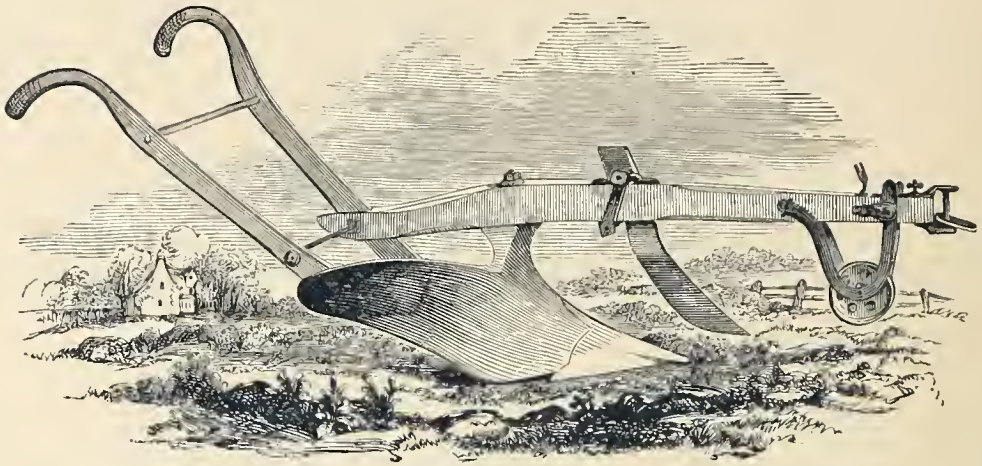

Fig. 299. — Prouty & Mears' Plow, Nos. 154 and 155.
*Improved Deep-Tilling Centre-Draft Plows, No. 154*, for three cattle, and *No. 155*, for four cattle, represented by *Fig. 299*, are deservedly popular among farmers who have used them. They are more especially adapted for sod-work, but